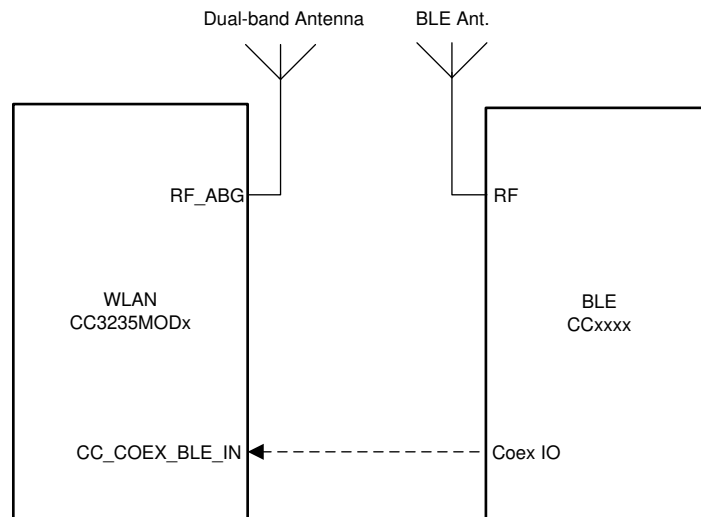

图 10-1. Dual-Antenna Coexistence Mode Block Diagram
- Dual-band Wi-Fi (see 图 10-1)
图 10-1 shows the dual antenna implementation of a complete Bluetooth® low energy and WLAN coexistence network with the WLAN operating on either a 2.4- or a 5 GHz band. Note in this implementation a Coex switch is not required and only a single GPIO from the BLE device to the CC3235MOD device is needed. In addition, the CC3235MODx's antenna is external while the CC3235MODAx's antenna is integrated.